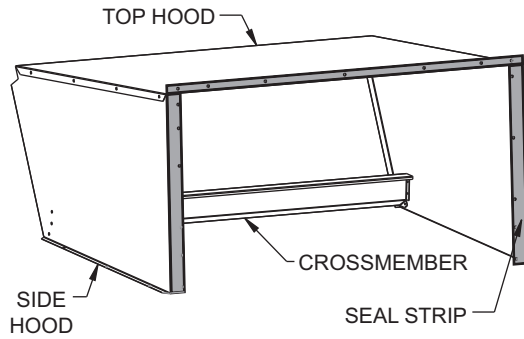

Fig. 23 — Adding Seal Strip to Hood Top and Side Hoods
5. Apply black seal strip (provided) to mounting flanges of hood sides being sure to cover mounting holes. See Fig. 23 for seal strip application.
6. Apply black seal strip (provided) to back of hood top mounting flange. Seal strip of hood top mounting flange must press tightly against seal strip of hood side mounting flanges. See Fig. 23 for seal strip application.